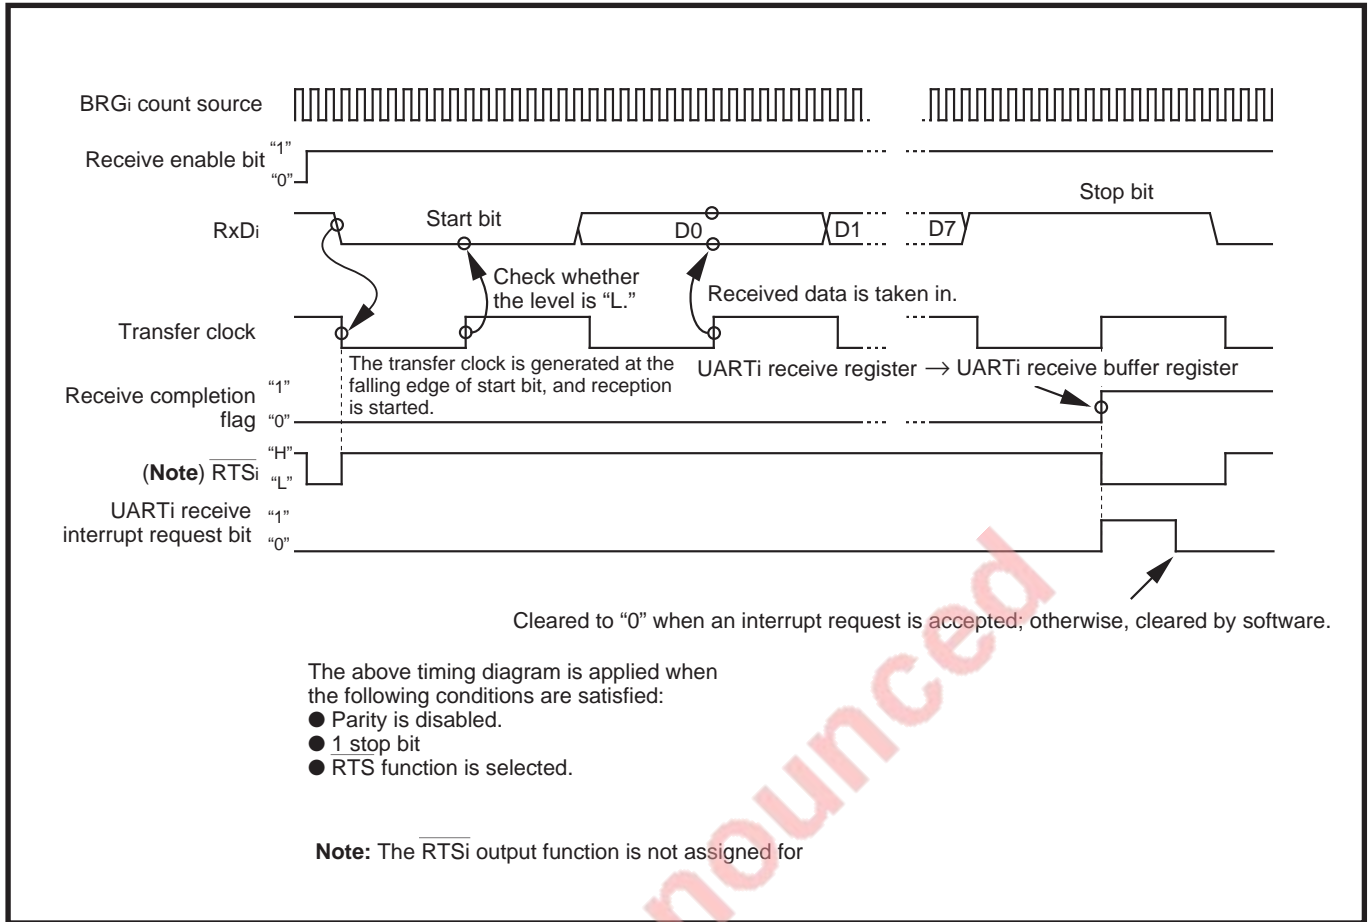

Fig. 8.4.12 Example of receive timing when data is transferred in 8 bits (When parity is disabled and one stop bit)
- ① The signal which is input from the RxDi pin is taken in the most significant bit of the UARTi receive register synchronously with the transfer clock’s rising edge.
- ② The contents of UARTi receive register is shifted by 1 bit to the right.
- ③ Operations ① and ② are repeated at each transfer clock’s rising edge.
- ④ When a set of data is prepared, in other words, when shifted several times depending on the specified data format, the UARTi receive register’s contents is transferred to the UARTi receive buffer register.
- ⑤ Simultaneously with ④, the receive completion flag is set to “1.” Furthermore, a UARTi receive interrupt request occurs and the interrupt request bit is set to “1.”
The receive completion flag is cleared to “0” when the low-order of the UARTi receive buffer register is read out. The  $\overline{\text{RTSi}}$  pin’s output level becomes “L” simultaneously with ⑤ (when  $\overline{\text{RTS}}$  function is selected). Figure 8.4.12 shows an example of receive timing when transfer data has a length of 8 bits.